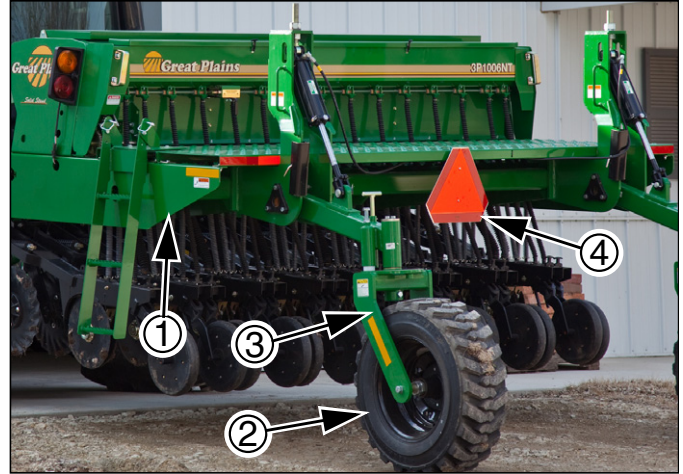
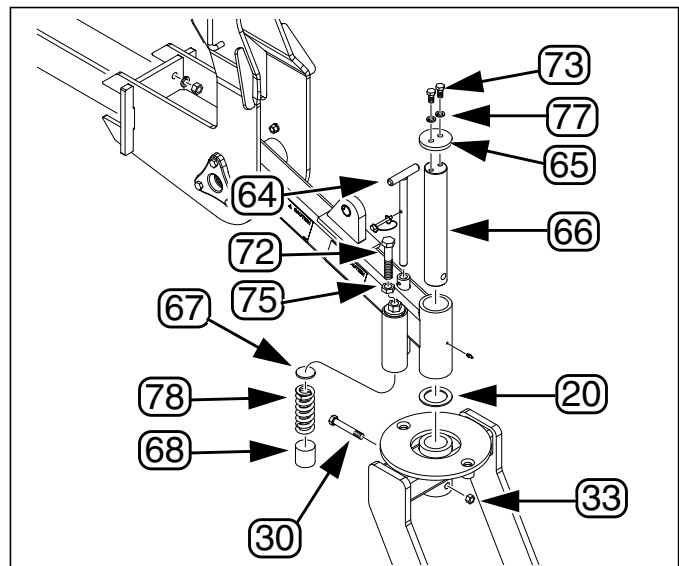

Figure 4
Figure 5
2. Support the drill frame with a jack placed at each end under the frame plate ① (see Figure 4).
Refer to Figure 4 and Figure 5
Refer to Figure 5